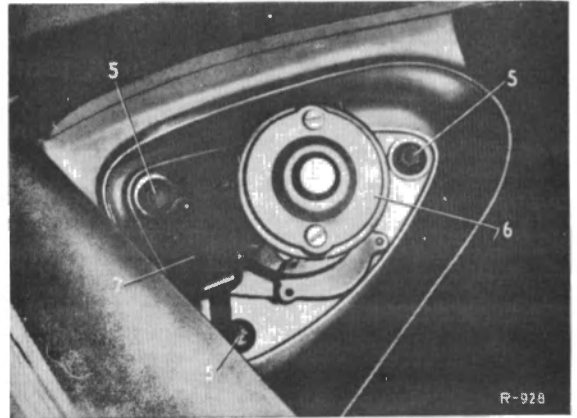

Fig. 82-4/2
4. Fit the wiper motor (6) and screw on by means of the fixing screws (5) (Fig. 82-4/2).